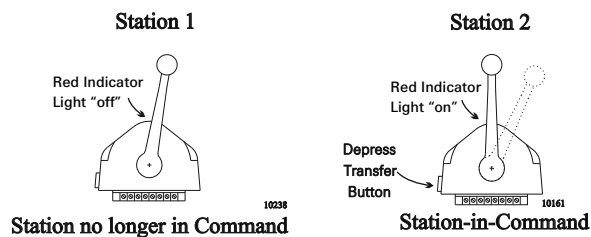

Figure 2-8: Remote Station Transfer after Transfer of Command
- C At the Station taking command (Receiving Station), depress and hold the transfer button for 1/2 second (refer to Figure 2-8: Remote Station Transfer after Transfer of Command).